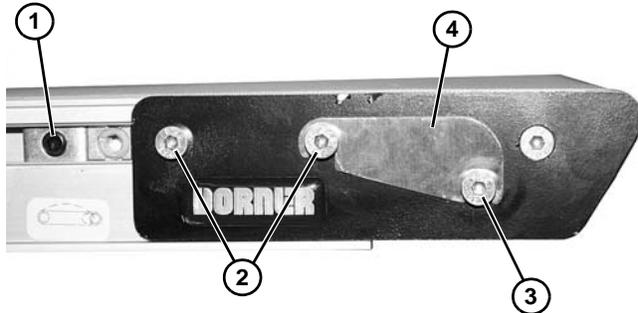
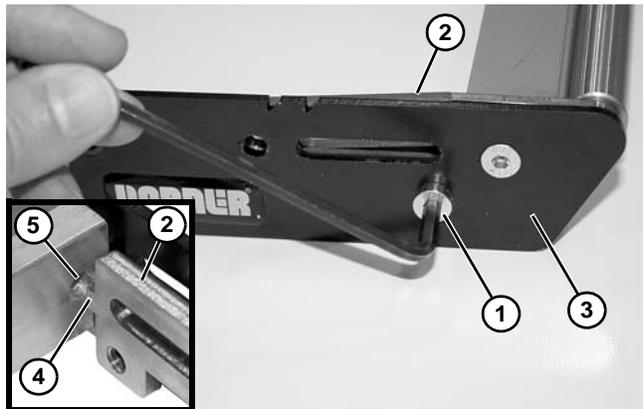

Figure 109
Figure 110
1. On both sides of conveyor, loosen cam fastening screw (Figure 109, item 1) (if equipped) and slide cam assemblies toward the center of the conveyor.
2. On both sides of conveyor, loosen fastening screws (Figure 109, item 2) to remove belt tension. Remove belt from end of conveyor.
3. On both sides of conveyor, loosen fastening screw (Figure 109, item 3) and remove dust cover (Figure 109, item 4) (if equipped).
4. Remove nosebar tail from the conveyor and place on an open work surface. On one side of nosebar tail, remove two fastening screws (Figure 109, item 2).
5. Remove lower screw (Figure 110, item 1) and remove tail nut bar (Figure 110, item 2) and side plate (Figure 110, item 3).
During reassembly, make certain that the tail nut bar nipple (Figure 110, item 4) is inserted into the support bar hole (Figure 110, item 5).
10. Assemble and install head plate in reverse order of removal. Use a 4 mm hex-key wrench to tighten lower screw (Figure 110, item 1) to 30 in-lb (3.4 Nm). Leave two fastening screws (Figure 109, item 2) loose for belt tensioning.